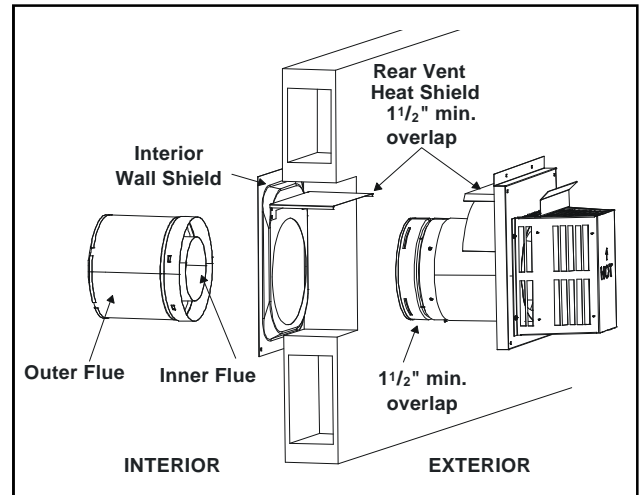

FIGURE 24. Venting through the Wall
- The heat shield sections will overlap to match the wall thickness (depth). The small leg in the shield rests on top of the flue to properly space it from the pipe section (see Figure 24).